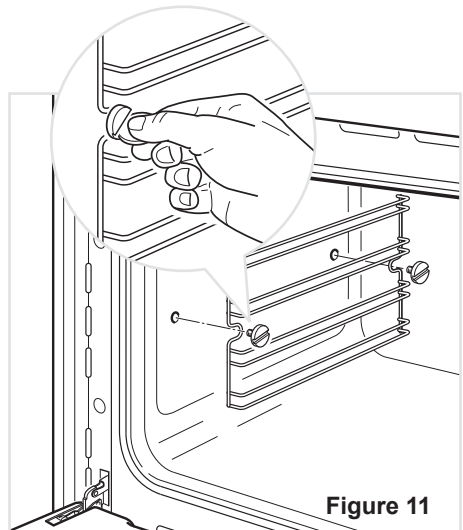

Figure 11
- Assemble the wire racks to the oven walls using the 2 screws (Fig. 11).
- Unscrew the fixing screws and slide off the wire racks to the oven wall as in fig. 11.